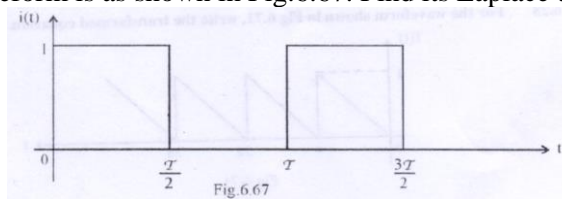

Fig.6.67
10. The periodic current waveform is as shown in Fig.6.67. Find its Laplace transform equation.